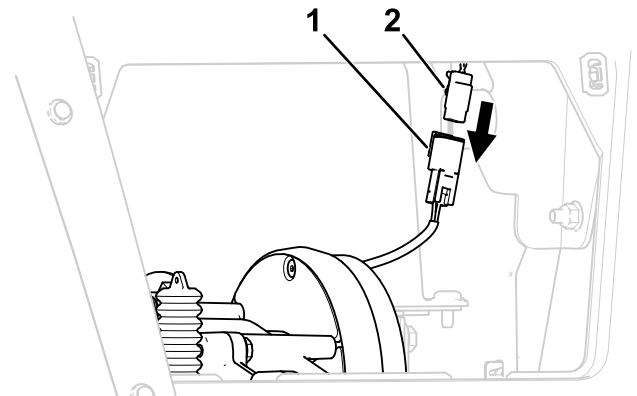

Figure 18
3. Disconnect the brake connector from the main harness (Figure 18).